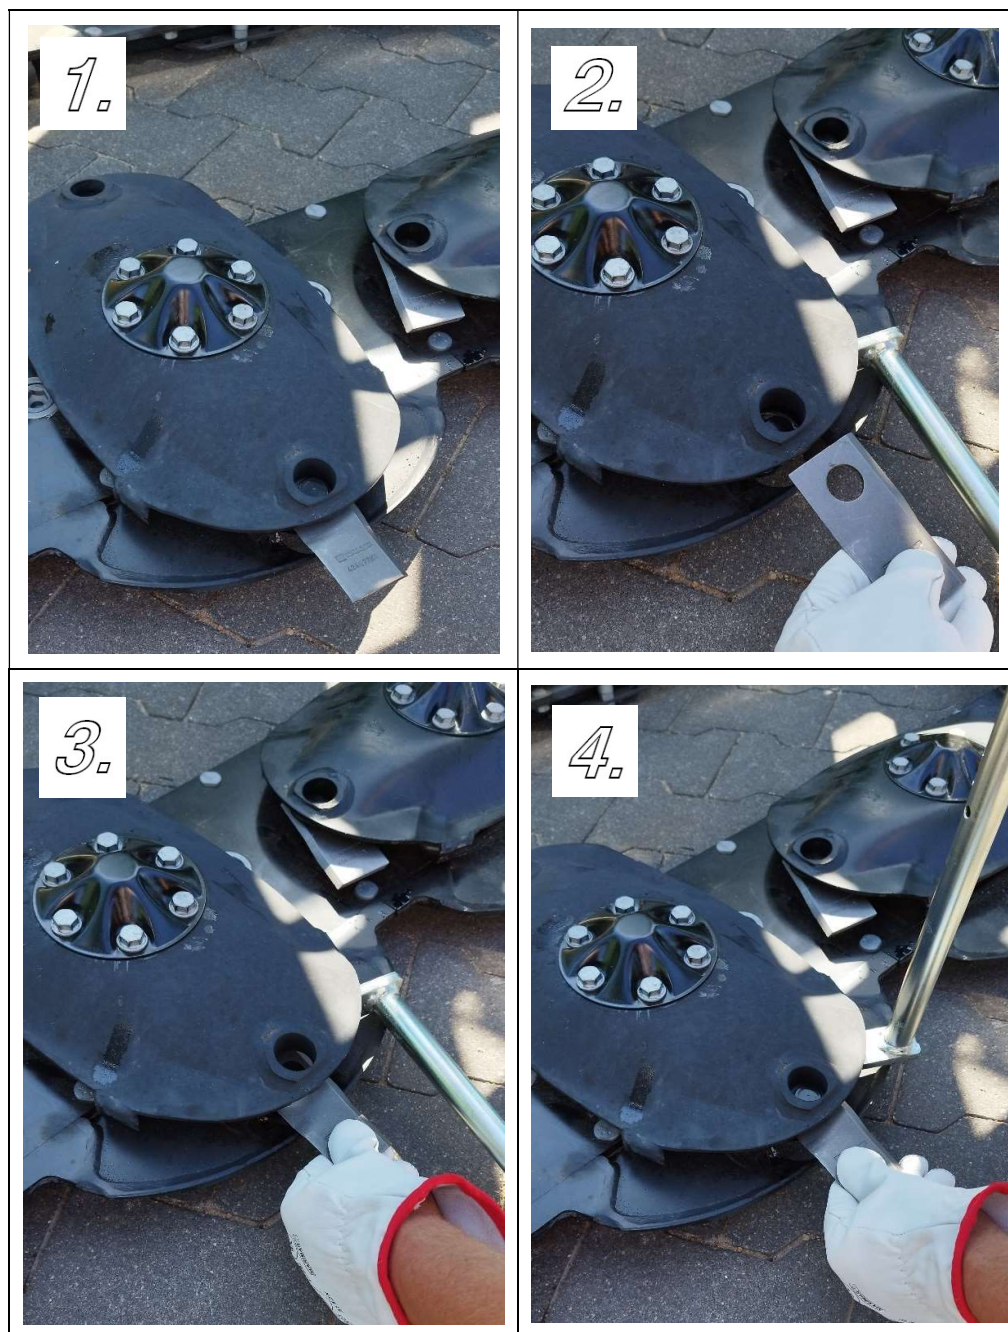

Fig. 19 Inspection, replacement and turning of blade
Replacement or turning of blade is performed by using a special wrench in accordance with the Fig. 19. Wrench is placed (picture 16 (1)) between the upper plate of the disc and the blade holder, the blade holder is tilted until it becomes loose making it possible to remove the blade 16(2). After inspecting the blade 16 (3), the blade tang and the blade holder (in accordance with the Fig. 18), the installation of the blade 16 (4) may be performed by turning the blade or replacing it.